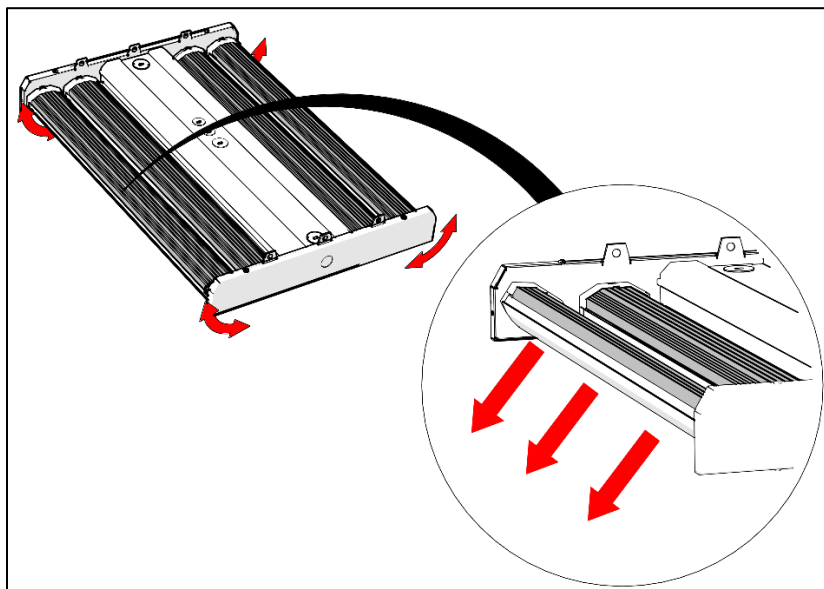

Figure 9
14. For models with 4 light bars, the outer light bars can be tilted outwards, approximately 30°. Grasp the outer light bars and adjust as desired, no tool is needed. (Figure 9)